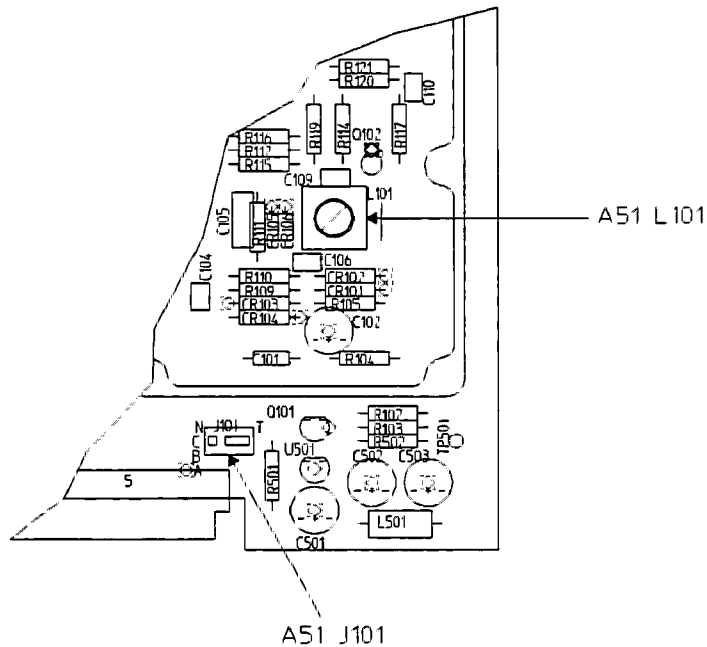

Figure 5-2. A51 Interpolation VCO Component Locator
2. Move the jumper on A51 J101 to its test position (see figure 5-2). Place the assembly on an extender board.